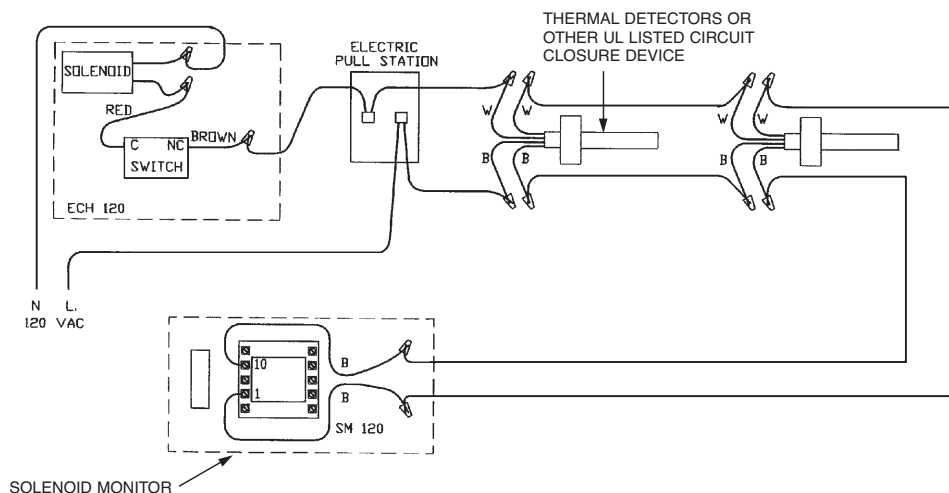

Figure 4-14.1. Wiring Diagram, Solenoid.
- The basic wiring diagram for both the Model SM-24 and Model SM-120 is shown in **Figure 4-14.1**.
The Model RPS-E2 remote electrical pull station is used for remote actuation of the Model ECH3 Control Head. It is to be located near an exit in the path of egress from the hazard area no more than 4 ft (1.2 m) above the floor. The Model RPS-E2 is installed in the detection/actuation circuit and wired in accordance with the instructions included. See **Figure 4-14.1** for typical circuit wiring.